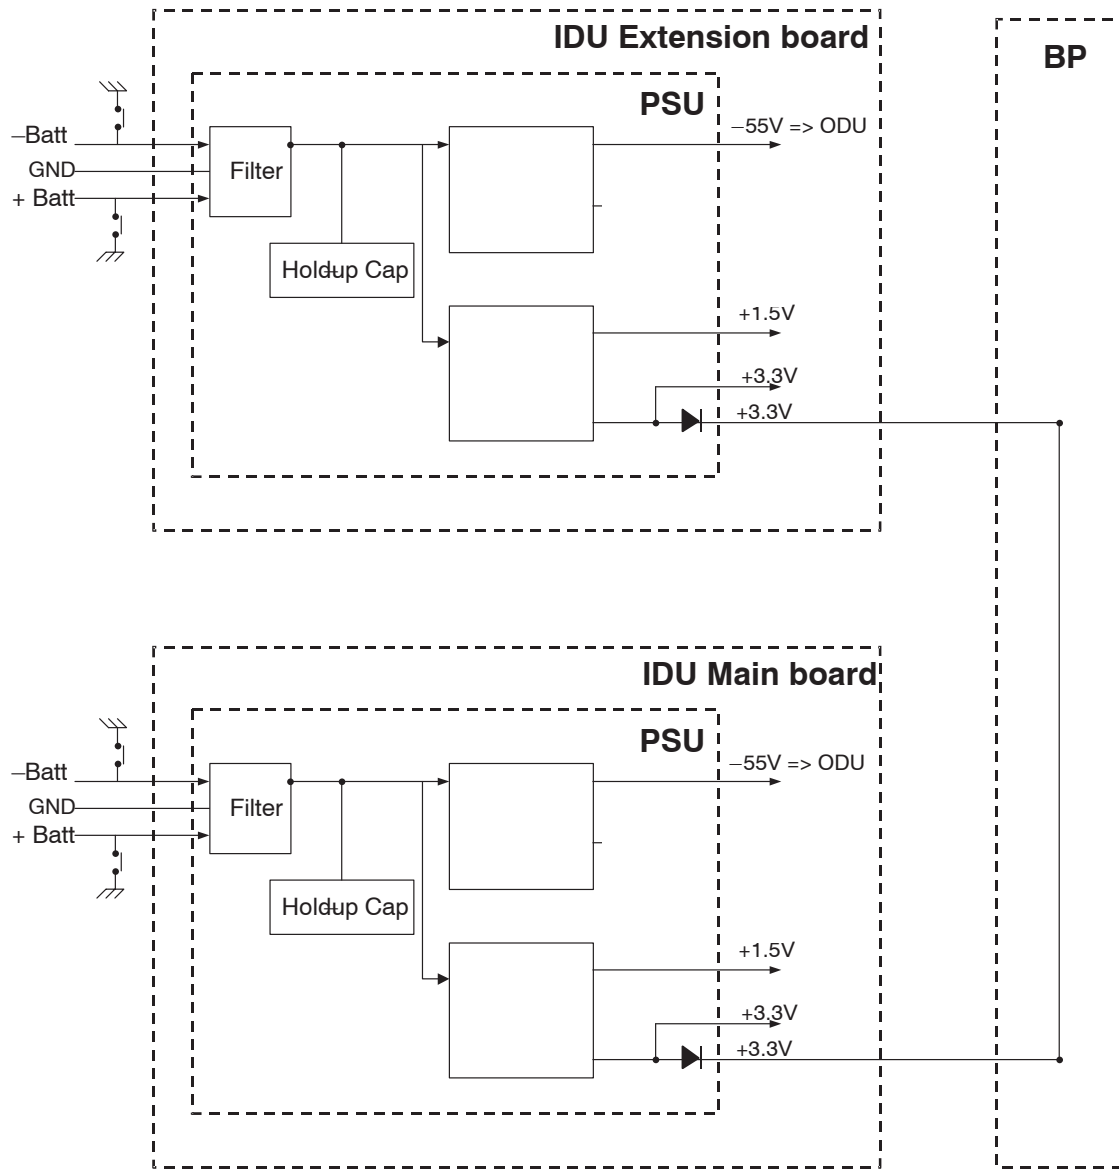

Fig. 72. Power distribution in 1+1 systems
- DC/DC converter plug-in board. It is a module including DC/DC converters and filters. The power distribution for 1+1 systems is shown in Fig. 72. on page 195 (in 1+0 systems the IDU extension board is not equipped).
- DC/DC converter plug-in board; Fig. 72. on page 195